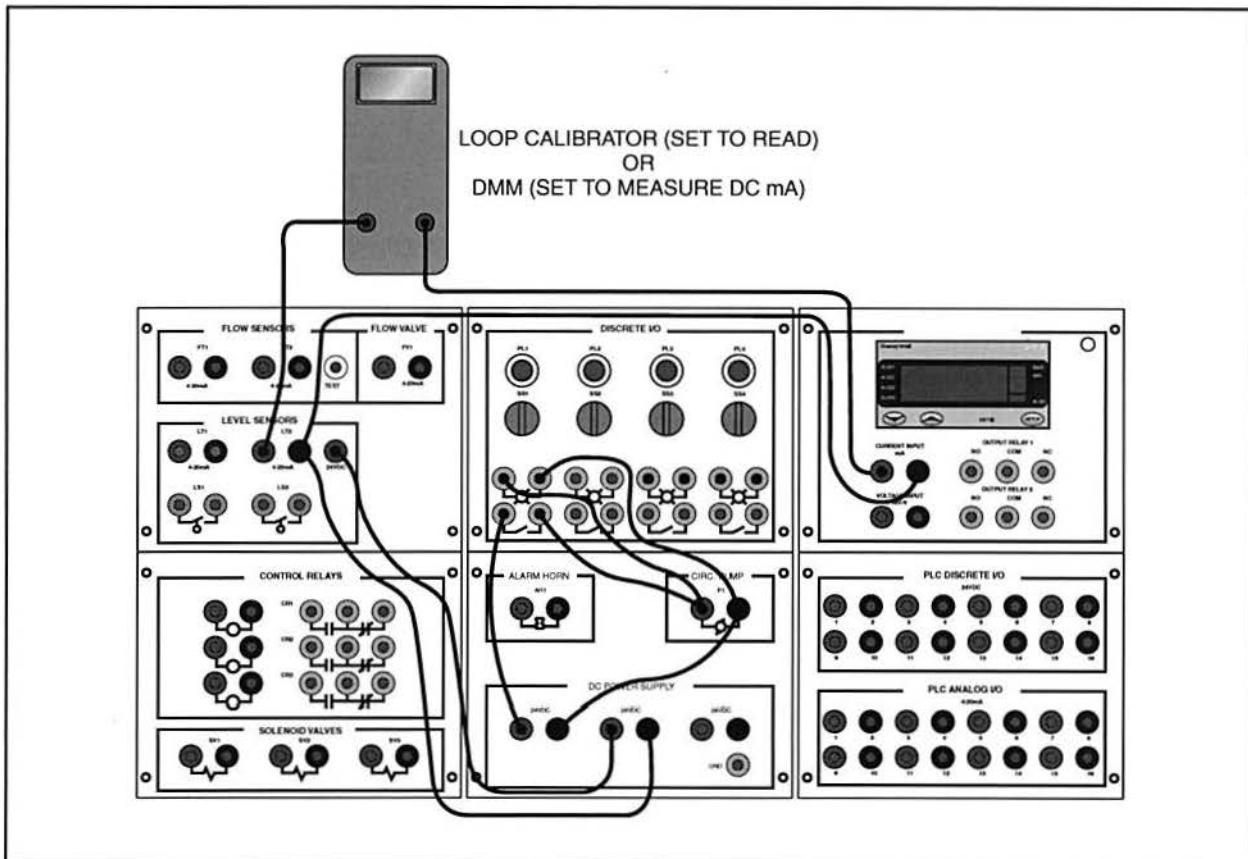

Figure 16. Level Measuring Circuit
3. Connect the circuit shown in figure 16.